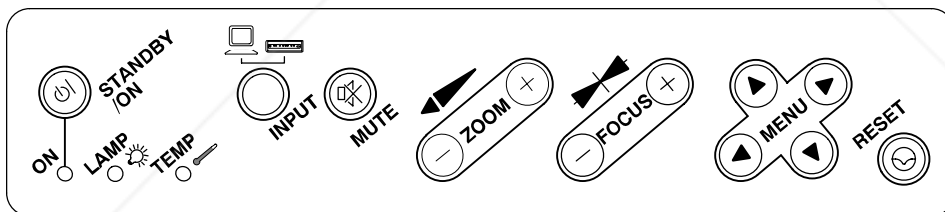

Figure 4-1. Projector Control Panel
**Projector Control Panel:** The projector control panel (Figure 4-1) is located on the top of the projector. Use these buttons to control the projector functions or use the remote control transmitter.
You can use either the projector control panel (Figure 4-1) or the remote control transmitter (Figure 5-1) to access menus, exit menus and set menu options.